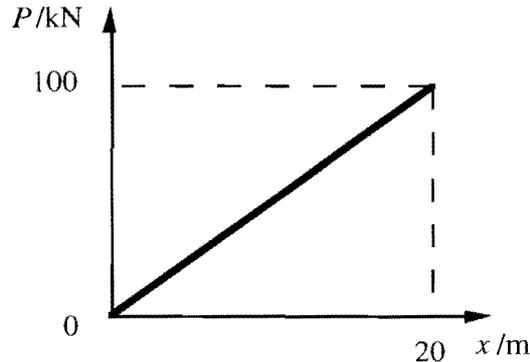

Figure 6
9. On landing, an aircraft of mass  $5\text{ Mg}$  (i.e.  $5000\text{ kg}$ ) is travelling horizontally at a speed of  $20\text{ ms}^{-1}$ . It is then brought to rest partly by the action of a constant frictional force of  $55\text{ kN}$  and partly by the action of a system of wires which exert a restoring force  $P$  which varies with the displaced distance  $x$  as shown in Fig. 6.